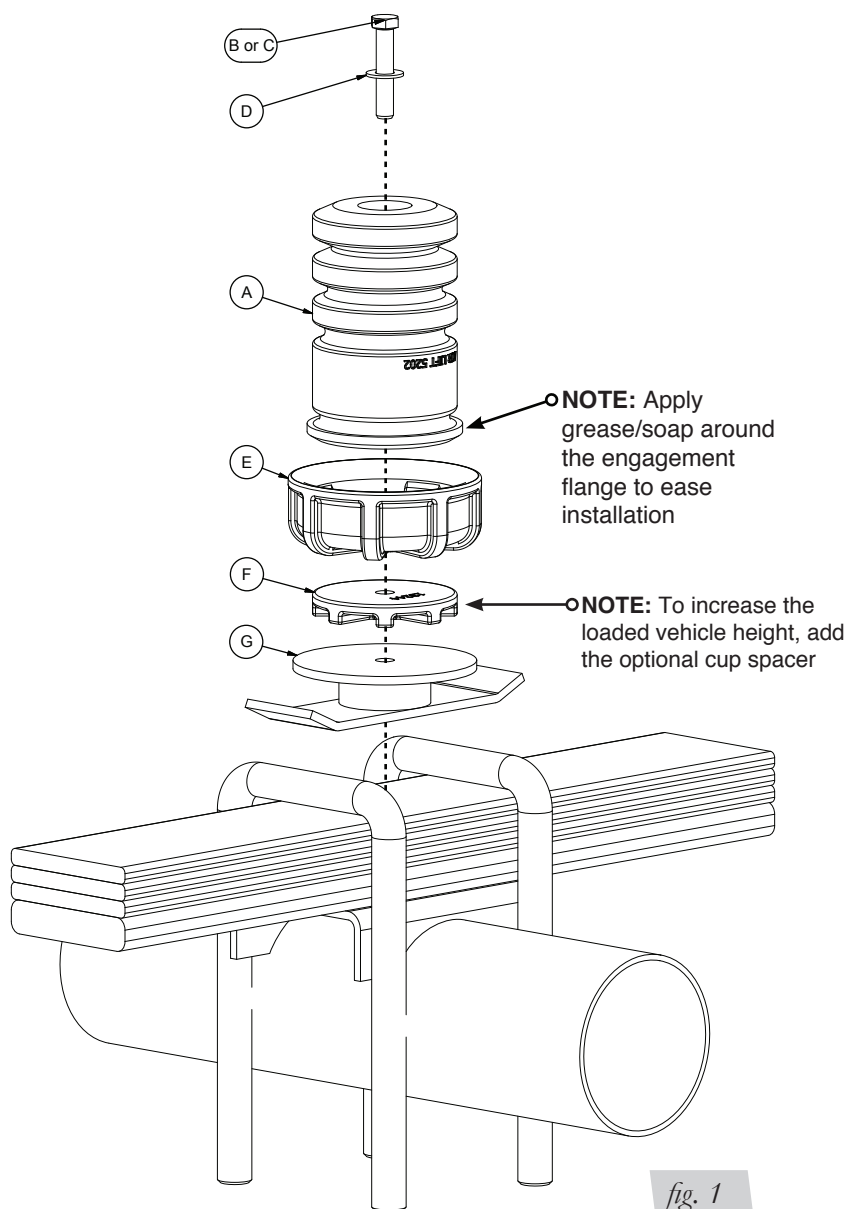

fig. 1
3. Assemble the spring cup to the bracket using 3/8" bolt and flat washer (fig. 1). Torque the hardware to 31lb.-ft.
4. Attach the bracket/spring cup assembly to the vehicle under the stock u-bolts that were previously loosened. Center the bracket/spring cup assembly above the axle (fig. 1). Raise the axle and torque the u-bolts to the OEM specifications.
You can adjust the loaded height of the vehicle by adding the optional cup spacer between the cup and the bracket. It will be necessary to use the longer hardware provided to install the cup spacer (see fig. 1 note).